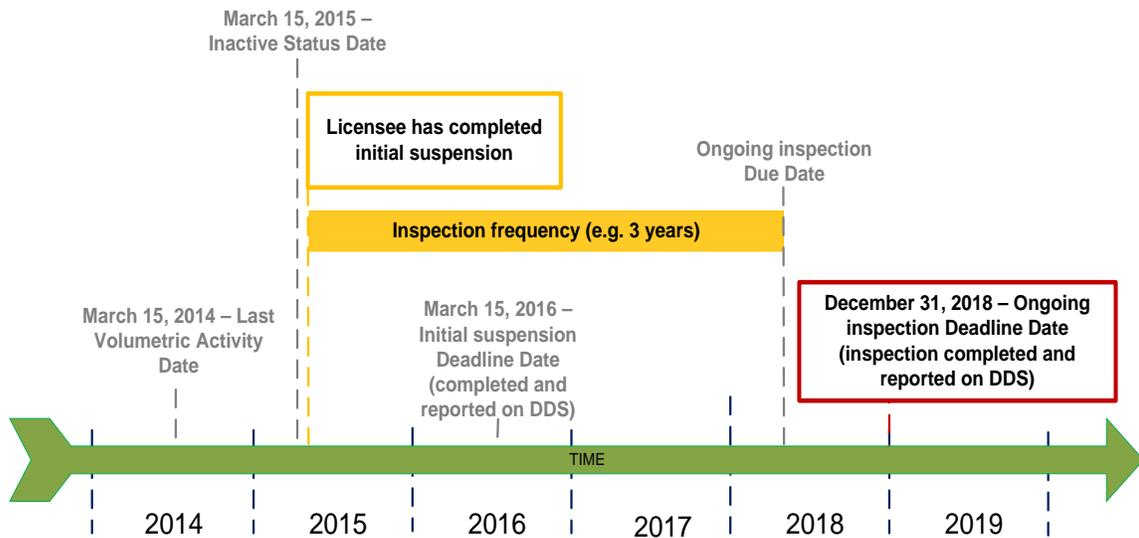

Figure 8: Calculating ongoing inspection deadlines
- Inspection deadline—The deadline for inspections will be calculated based on the inspection due date in DDS and moved from a specific date to the end of that calendar year. For example, if the medium-risk well is suspended on April 1, 2015, using a packer and tubing plug, the inspection frequency is three years and the inspection due date would be April 1, 2018. The inspection deadline date will be December 31, 2018 (see figure 8).